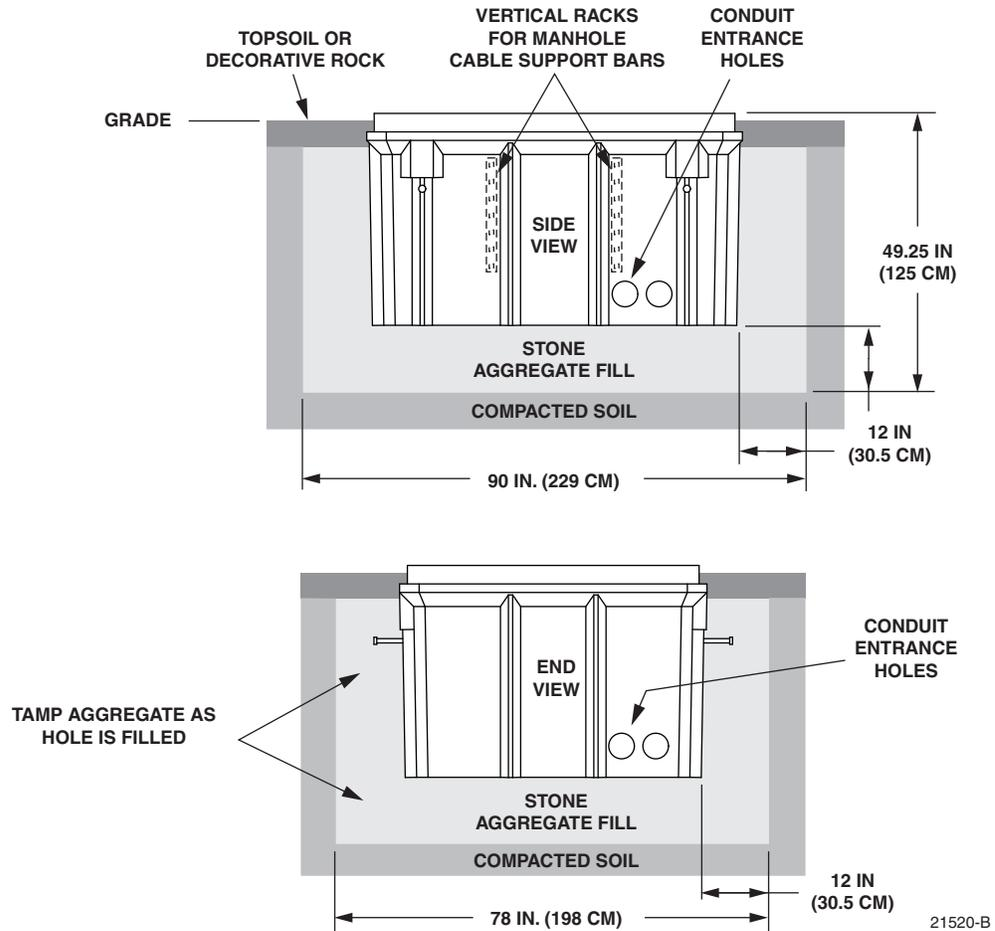

Figure 4. Excavation Recommendations for FMS-ACE300-KIT-A
fill below and on each side of the FMS. The excavation dimensions for the FMS are shown in Figure 4. Excavate a rectangular hole for the FMS.
Select the conduit entrance holes (see Figure 4) for the OSP feeder and distribution cables. If necessary, additional conduit entrance holes may be cut using a power drill and hole saw. Place and route the conduit into the entrance hole(s). If preferred, the FMS may be installed without conduit. OSP cables may be routed into the FMS at any point that is convenient. Cut the cable entrance hole to match the size of the cable.
2. Complete the back-fill with crushed rock or topsoil depending on the landscaping requirements. The top surface of the mounting sleeve may be located from 0 to 4 inches (10.2 cm) above the surrounding grade (see Figure 4).